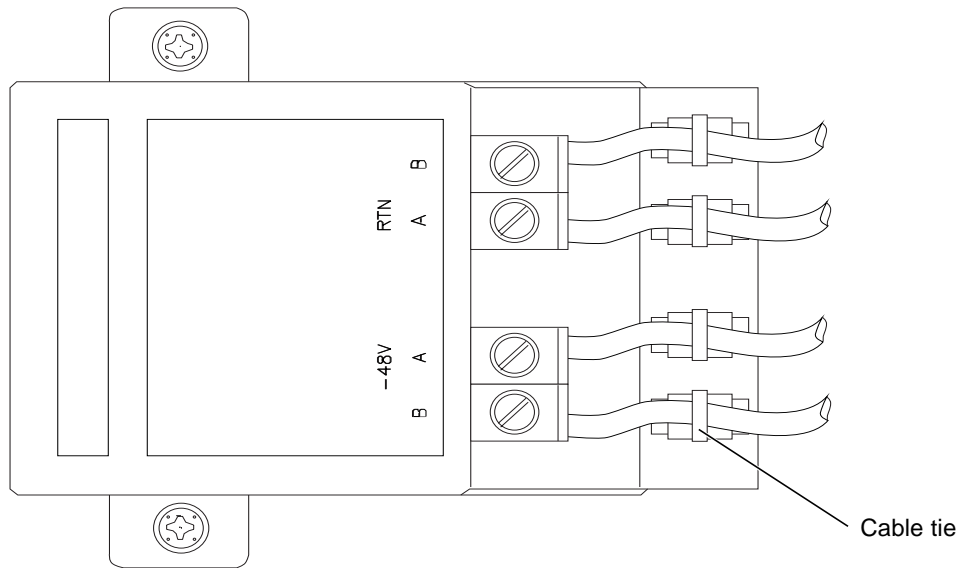

FIGURE 3-12 Power Cable Arrangement for Strain Relief
6. Use cable ties to secure the wires to the swivel loops in the mounting bracket (see FIGURE 3-12).